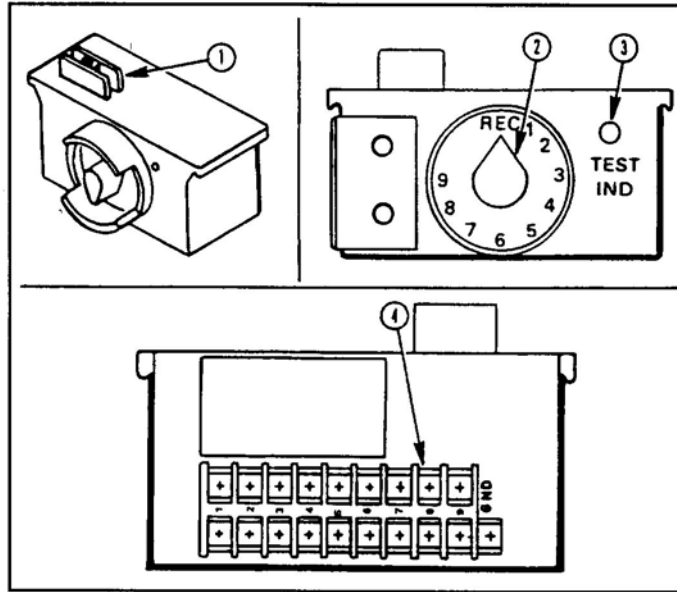

Figure 11. Wire Link.
c. Wire link (Figure 11).
(1) The connector (1, figure 11) allows attachment of the wire link to the base of the receiver.
(2) The REC-TEST switch (2, Figure 11) has 10 positions.
(3) The TEST IND light (3, Figure 11) lights when the REC-TEST switch is turned to a wire-link pair number.
(4) WIRE terminals 1 through 9 (4, Figure 11) are used to connect field wire pairs from the wire link to the detectors. The GND terminal (5, Figure 11) is used to attach the grounding rod to the wire link.